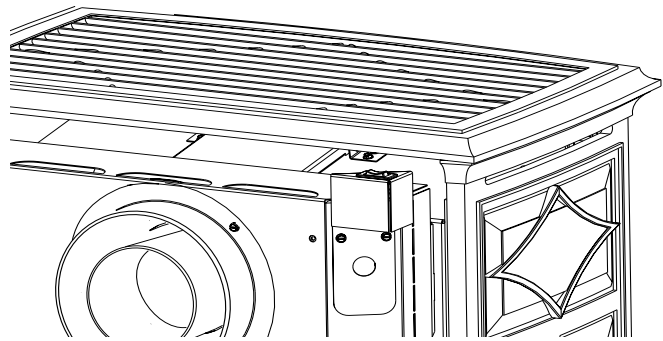

Figure 32. Burner Control Switch location.
2. Once the pilot is lit, burner operation is controlled by the rocker switch located at the left rear corner of the stove. Use the T-STAT position for the optional thermostatic or remote control functions. See fig. 32.